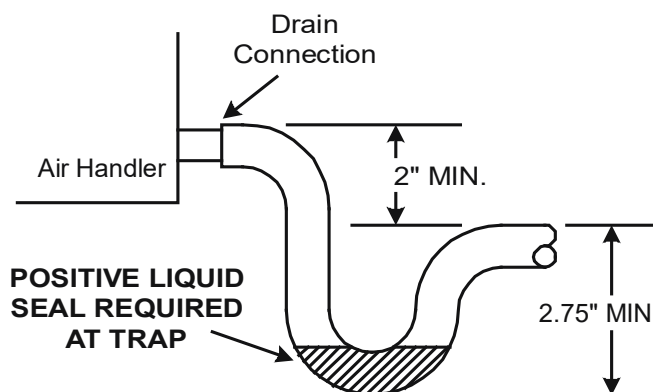

Figure 16
The installation must include a "P" style trap that is located as close as is practical to the indoor unit coil. See Figure 16 for details of a typical condensate line "P" trap.
**NOTE:** Units operating in high static pressure applications may require a deeper field constructed "P" style trap than is shown in Figure 16 to allow proper drainage and prevent condensate overflow.